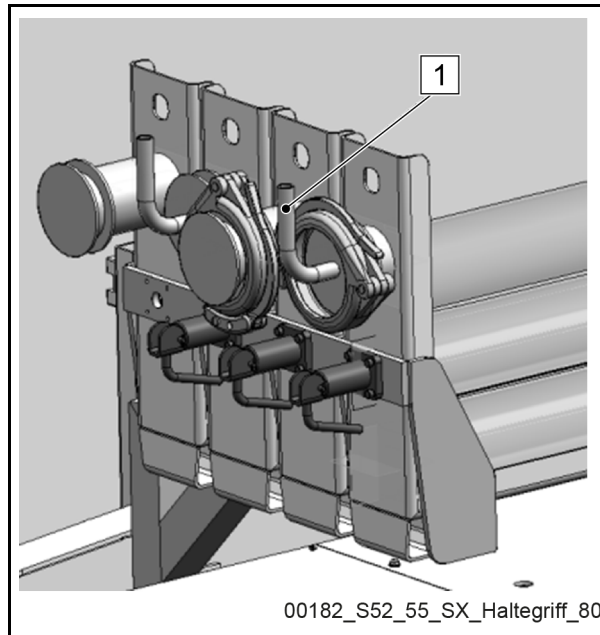

Fig. 482 Handle
- It is strictly prohibited to position the raised stowing boxes and cassettes manually, **while** being **moved** by means of a lifting device. When improving the position, use the handle (1) (**Fig. 482**) taking occupational safety into account and only when the stowing box or cassette is stationary.